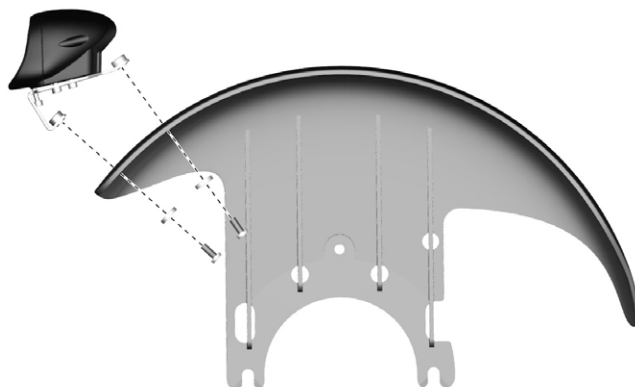

Figure 170. The front light. It is attached with two screws from underneath.
4. Remove the front light. It is attached with two screws from underneath. See fig. 170.
1. Assemble the front light using the two screws from underneath. See fig. 170.